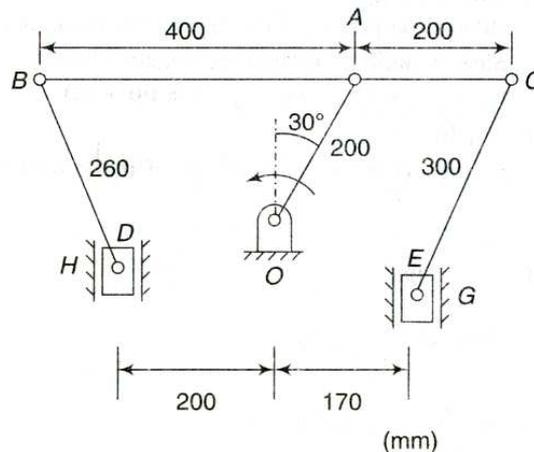

Fig. 1
21. In a mechanism shown in Fig.1, the angular velocity of the crank OA is 15 rad/s and the slider at E is constrained to move at 2.5 m/s. The motion of both the sliders is vertical and the link BC is horizontal in the position shown. Determine